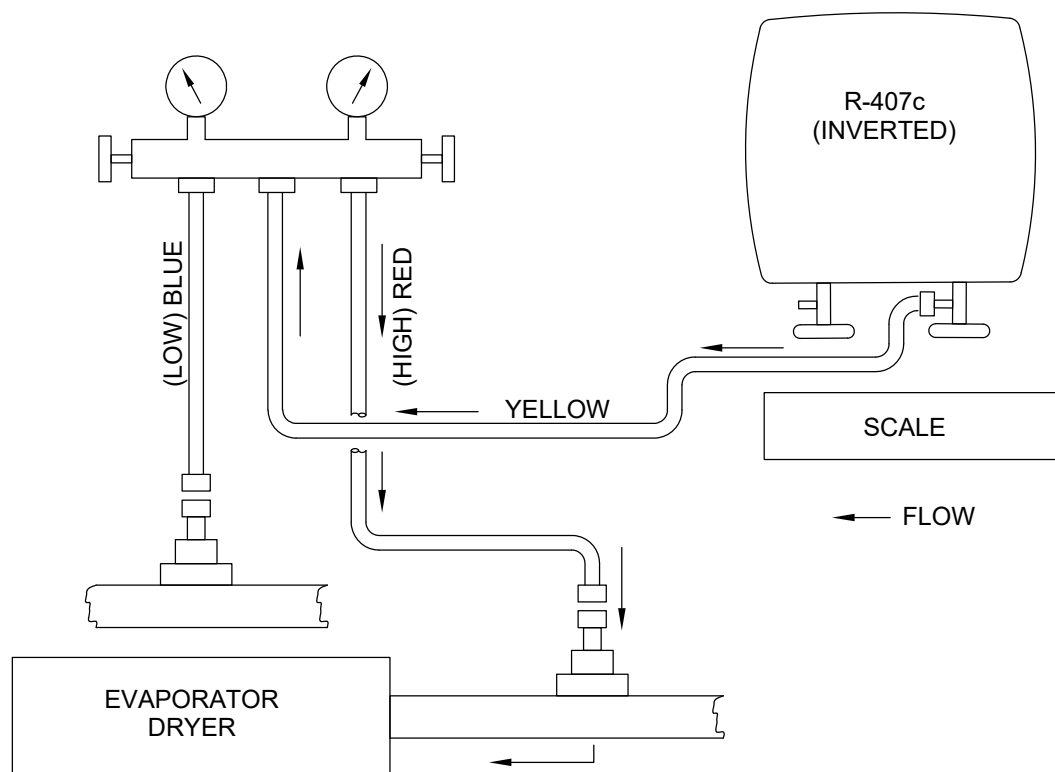

Figure 3. System Charging (Using Standard Scale).
1. Connect refrigerant hose (red) from service gauges to input high pressure line (inside ECU, near filter/Drier) (see Figure 3).
4. Connect refrigerant hose (yellow) from service gauges to output bottle of R-407C (see Figure 3).